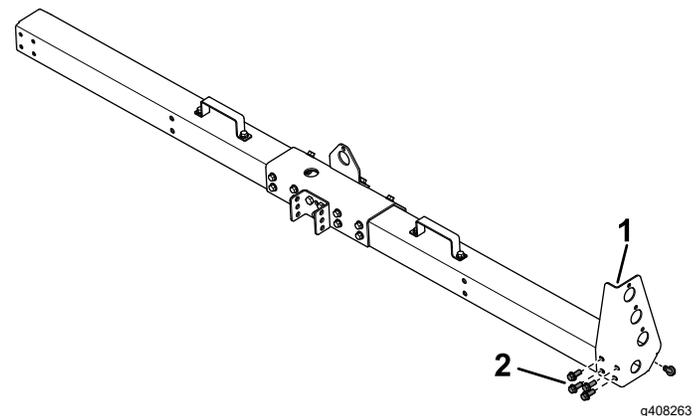

Figure 17
2. Loosely install the right shroud end onto the boom shroud with 5 hex bolts (3/8 x 1 inch) and 5 locknuts (3/8 inch); refer to Figure 17.